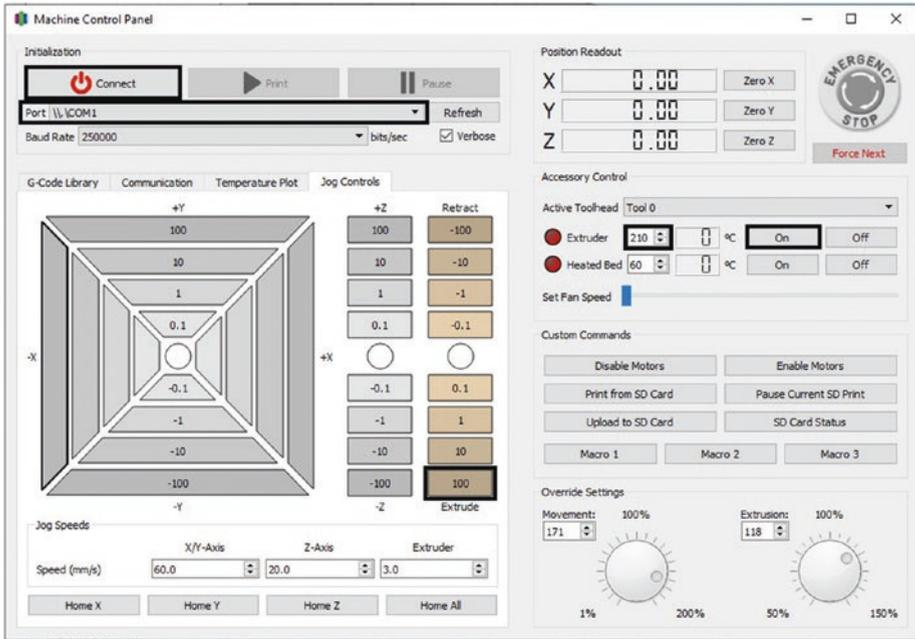

Figure 4-35. Open the machine control panel to control your printer
4. Extrude 100mm of material using the machine control panel (also, make sure your extruder is heated up; otherwise, the extruder will not extrude); you will also need to have the printer connected to your computer for this process. See Figure 4-35.